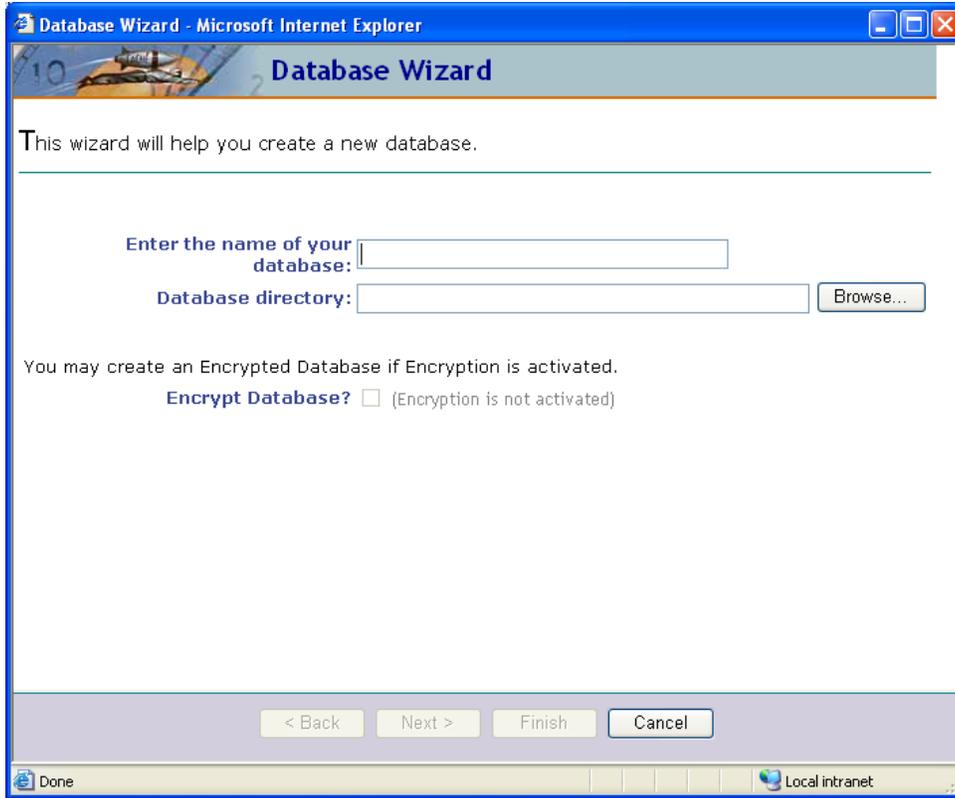

Figure 4-6: Creating a database, encryption not activated
7. Click **Create New Database** to display the **Database Wizard** window, as shown in Figure 4-6.